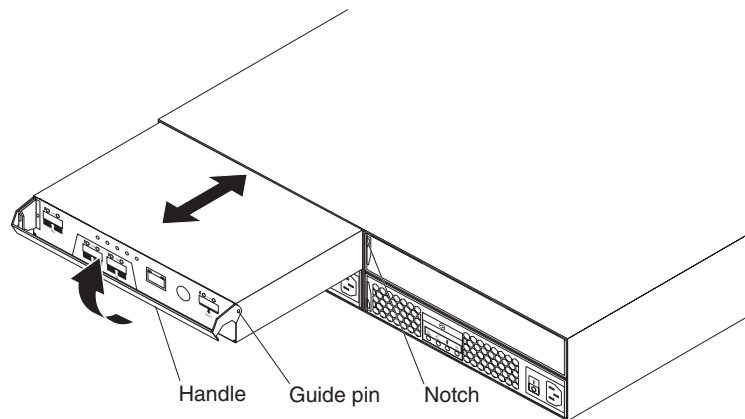

Figure 67. Removing and replacing a controller
- b. Make sure that the guide pins on the side of the controller fit into the notches on the DS3400 chassis. See Figure 67 on page 100.